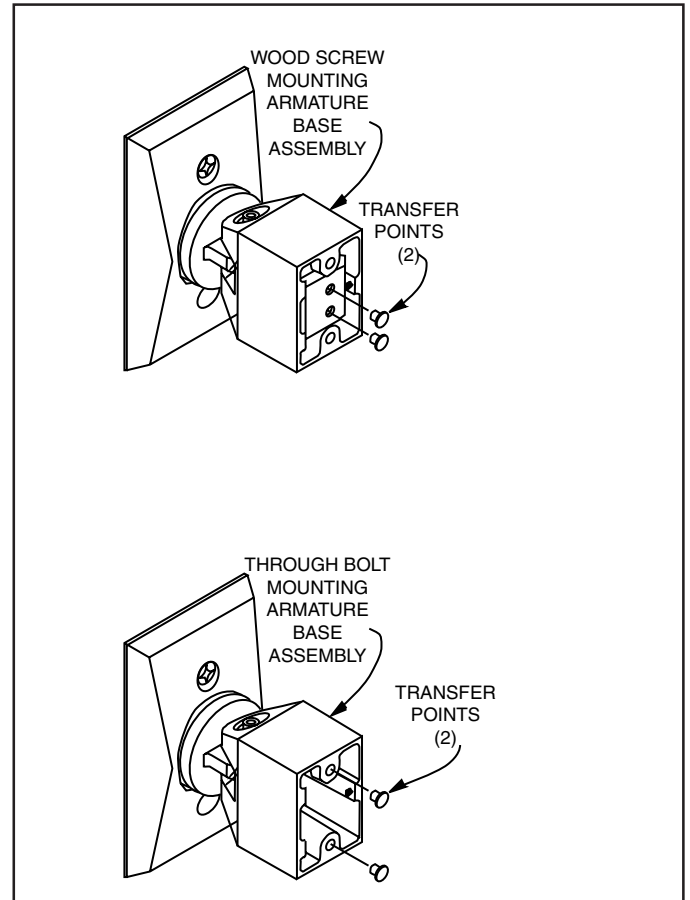

Figure 2. (Mounting Armature Assembly)
NOTE: Mount the armature assembly vertically (Figure 2) to obtain the correct alignment with the electromagnet.
2. Place the transfer marking points in the armature mounting holes (Figure 2).